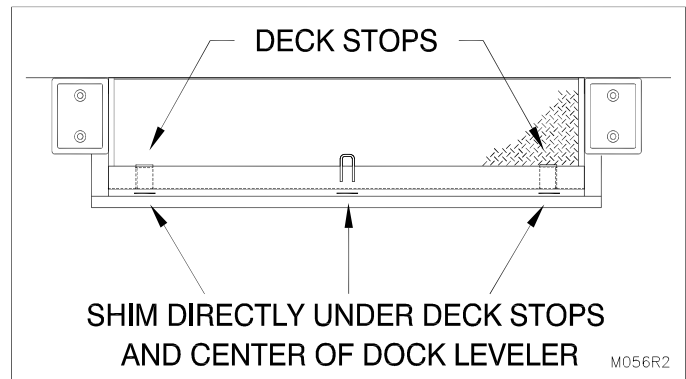

Figure 11: Hydraulic Dock Front Shims
2. ___ Lower dock leveler to the stored position and shim front frame under the two deck stops and in center of dock leveler until the deck is flush with the top of the front curb angle and the floor. (See "Figure 11: Hydraulic Dock Front Shims" on page 11) Tack weld into position.